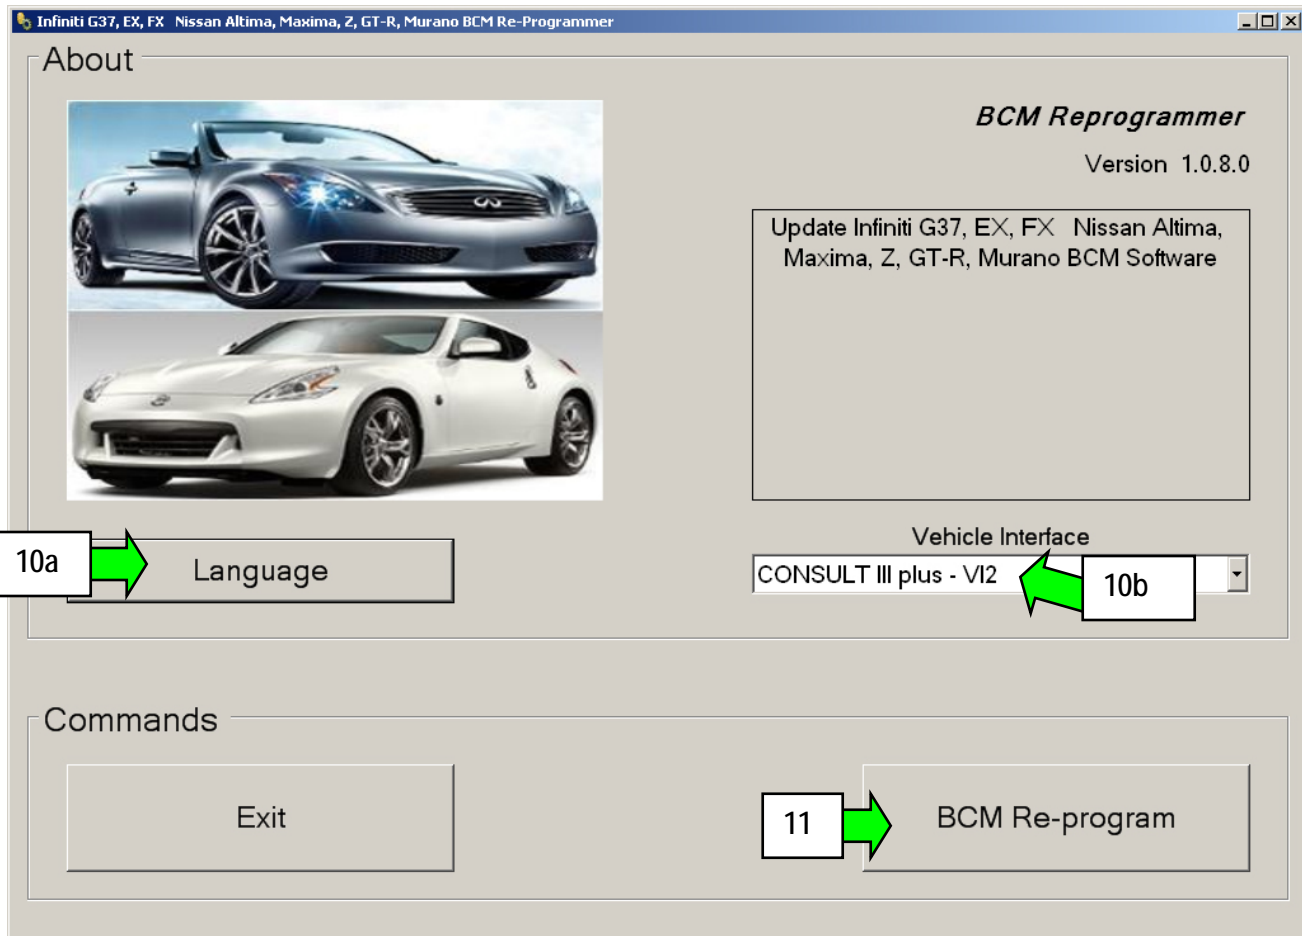

Figure 1
10. Make selections on the main screen (see Figure 1).